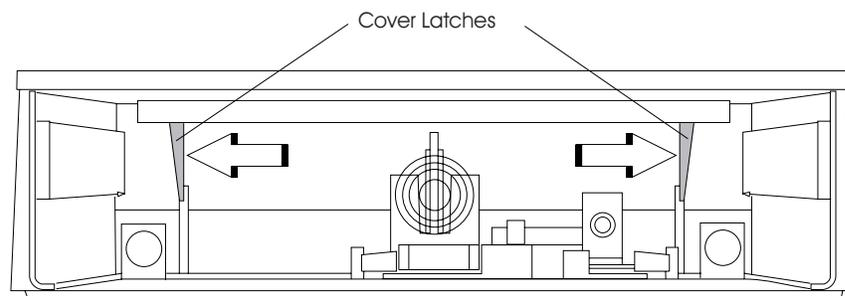

Figure 17. Removing and replacing the top cover
5. To separate the top cover from the base, reach in from the front and push the cover latches outward while pushing them to the rear. The cover slides off toward the rear (see Figure 17).